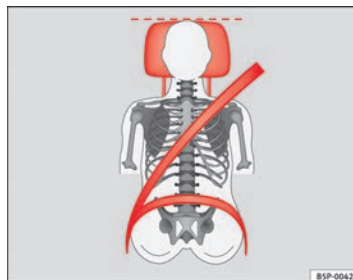

Fig. 12 Correct seat belt and head restraint positions, viewed from front
- The shoulder belt must be positioned around the middle of the shoulder. The seat belt must lie flat and snugly on the torso ⇒ page 22, fig. 12.